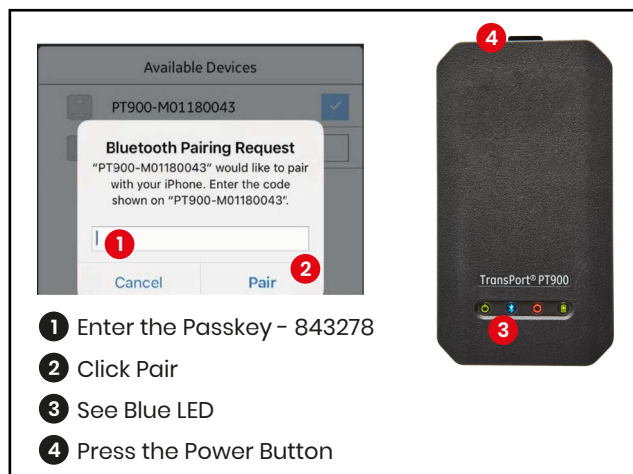

Figure 69: Confirm the Pairing
11. During the pairing process, PT900 security features require the user to confirm the pairing (see Figure 69 below). When the Bluetooth pairing request appears on the tablet, enter the passkey and click Pair. Then, confirm that the blue LED on the transmitter is flashing and click the transmitter power button within 10s. Passkey for this device is 843278.